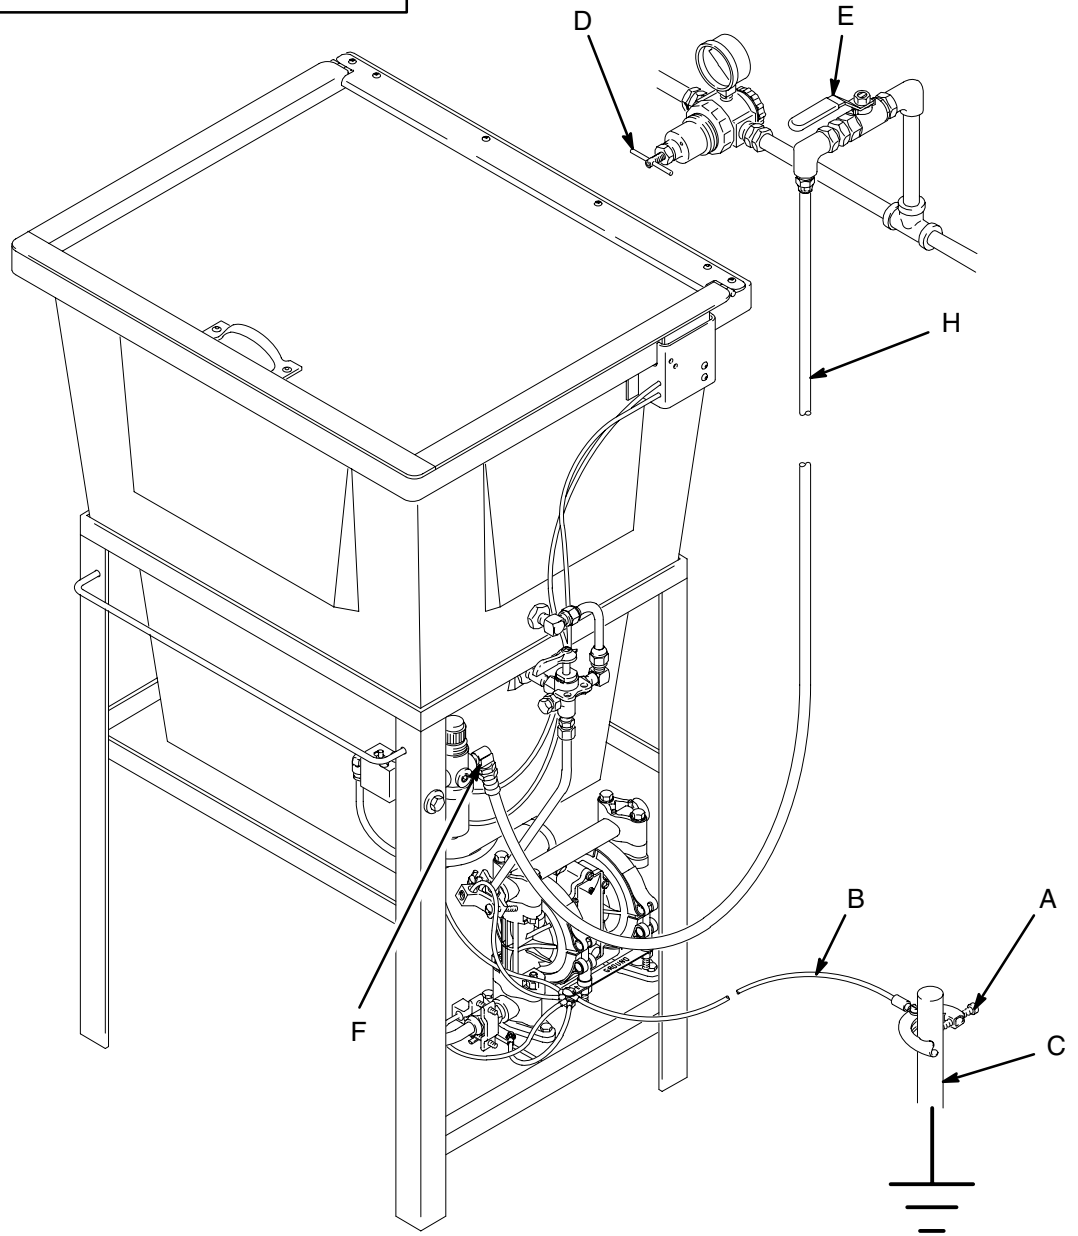

Fig. 2
1. Ground the gun washer and its pump by connecting the clamp end (A) of the gun washer's 15 ft. (4.6 m) ground wire (B) to a true earth ground (C). See Fig. 2.
1. Install an air pressure regulator (D) on the gun washer air supply line to control air pressure to the gun washer. See Fig. 2.
2. Install a bleed-type master air valve (E) upstream and within easy reach of the gun washer to relieve air trapped between this valve and the pump after the air is shut off.